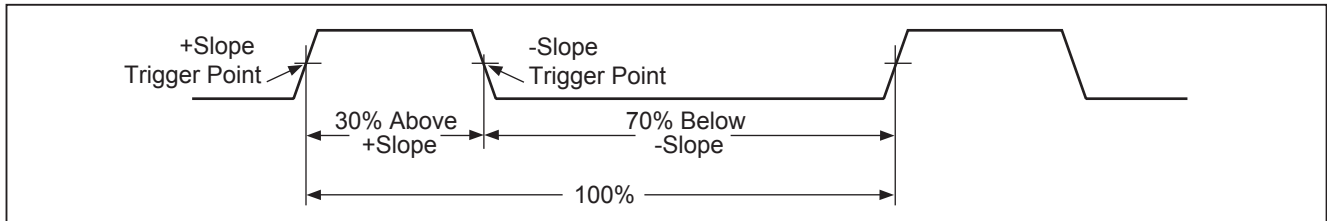

Figure 9. Components of Duty Cycle Measurements
To measure frequency, connect the Product to the signal source. Next push **Hz %**. When you push **|||**, the trigger slope switches between + and -, as shown by the symbol at the left side of the display (refer to Figure 9 under "Duty Cycle"). Push **AutoHOLD** to stop and start the counter.
Duty cycle (or duty factor) is the percentage of time a signal is above or below a trigger level in one cycle (Figure 9). The duty cycle mode is optimized to measure the on or off time of logic and switching signals. Systems such as electronic fuel injection systems and switching power supplies are controlled by pulses that have different widths, which can be measured by a duty cycle measurement.
2. Push **Hz %** a second time to measure the signal's duty cycle. Push **||||** to select a measurement of the signal's positive or negative pulse, refer to Figure 9.